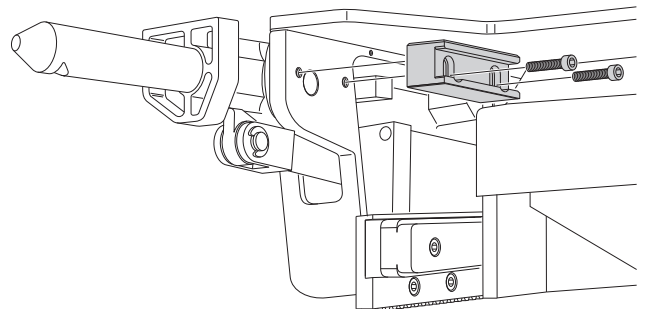

Figure 2. 3500 Bracket Installation
2. Using the existing tapped holes, attach the Uro Bracket to the side frame with two Allen Bolts (Figure 2).